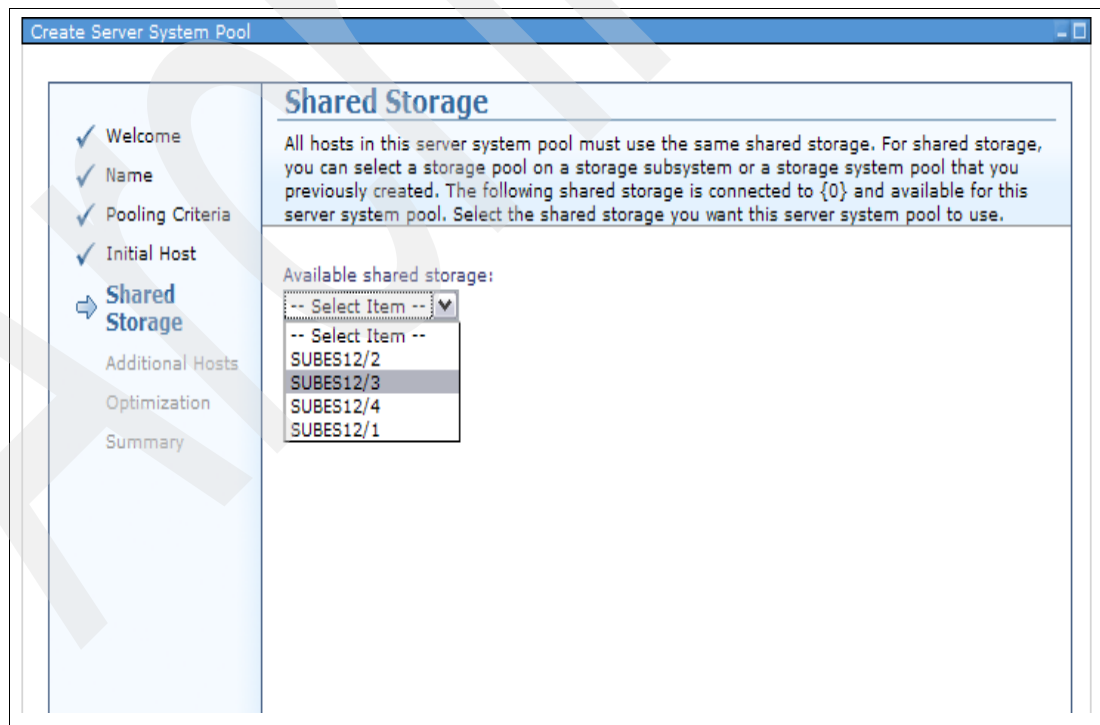

Figure 5-22 System pool shared storage
4. All hosts in the server system pool must use the same shared storage. Available shared storage is listed for selection, as shown in Figure 5-22.